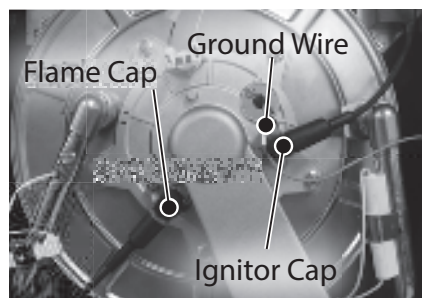

Figure 115 - Remove ignitor rod and flame sensor caps
- 12** Locate the flame sensor and ignitor rod on the burner assembly as shown in Figure 115. Remove the caps from the flame sensor and ignitor rod. Disconnect the green ground wire from the ignitor rod.